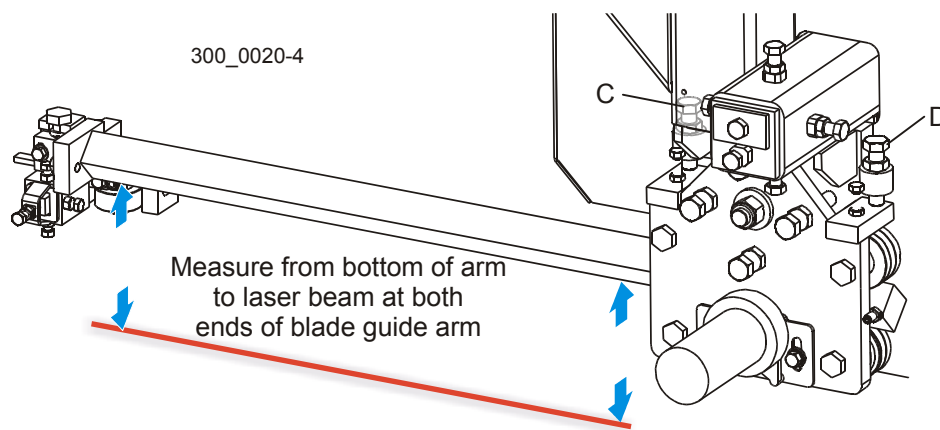

FIG. 3-24
See **Figure 3-24**. Adjust the blade guide arm all the way in. Measure from the bottom of the arm to the laser beam at both ends of the arm. The two measurements at each end of the arm should be the same within $1/32$ ". To adjust the vertical tilt of the arm, adjust the bolts (C & D) on the blade guide arm mounting plate. Loosen the jam nuts. Adjust bolt (C) up and bolt (D) down to tilt the arm up. Adjust bolt (D) up and bolt (C) in to move the arm toward the blade. Recheck the distance from the arm to the laser beam at both ends of the arm. Readjust if necessary. Tighten the jam nuts.